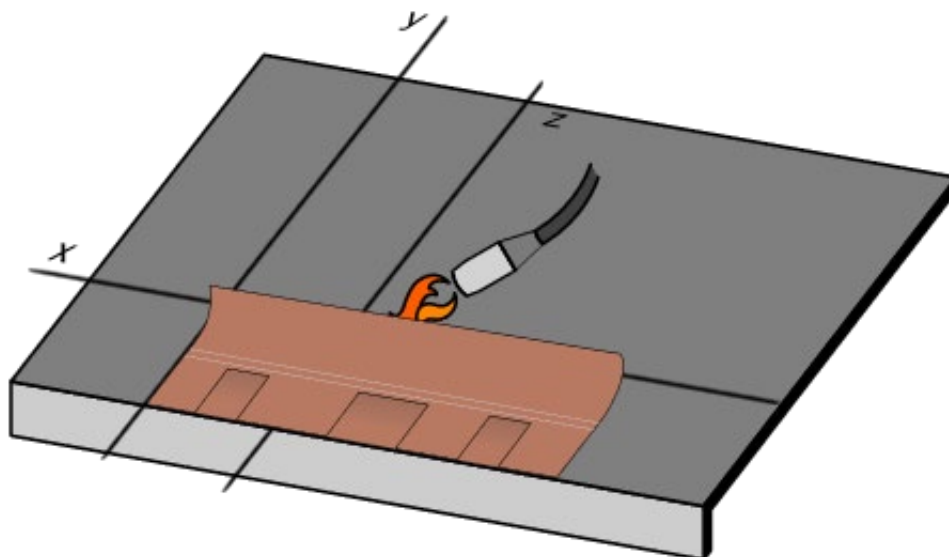

Fig. 18 – First row shingles installation by torch
- Proceed with the installation of the shingles of the first row: align the lateral edge of the first shingle on the vertical **y** and the upper edge on the horizontal **x** – Fig. 18.
- Fix starting row shingles to the membrane using the torch and lifting one side of the shingle at a time with a tool. Direct the flame towards the membrane to melt it. The back of the shingle will only be heated indirectly by the flame - see Fig. 18. Lower the bituminous shingle and press it (for example, by pressing with a foot) to help the penetration of the bitumen of the two elements: shingle and membrane.